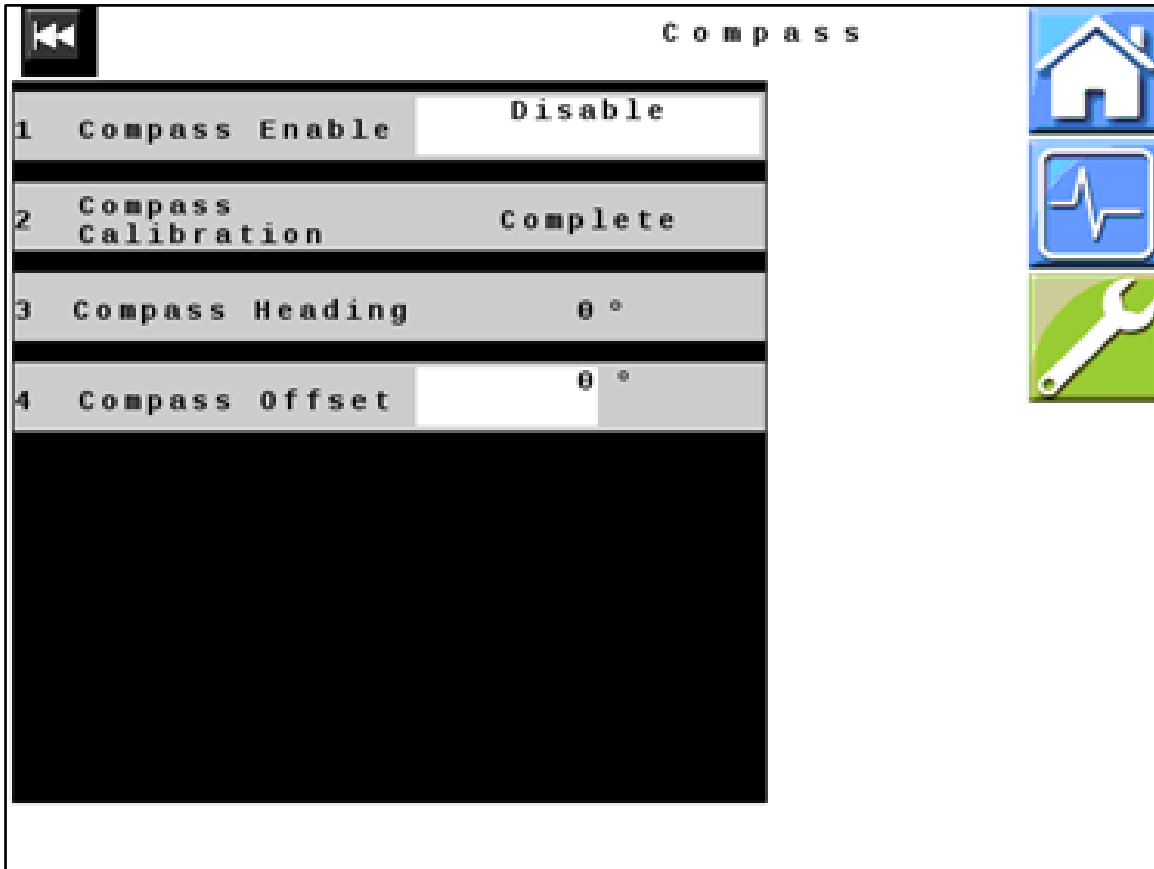

Figure 23 — Compass
40. *Figure 23:* Verify that all values displayed on your unit match those shown here. Change values if necessary.